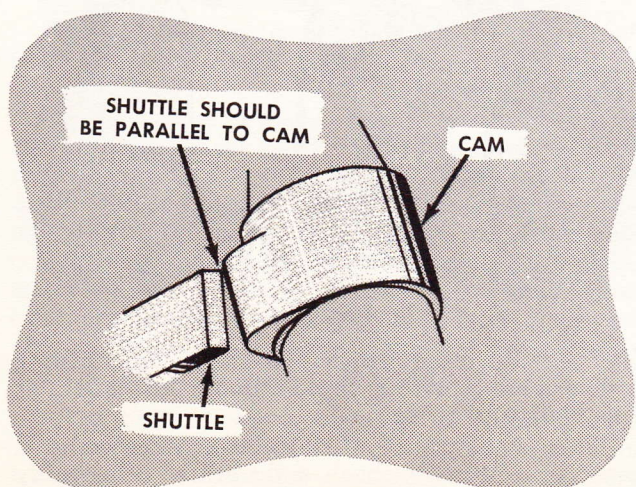

Fig. 13
6. Another possibility of point setting changing would be that as the points were installed, the rocker arm or shuttle arm to cam lobe was not true. In this case the shuttle or rocker arm is contacting the breaker cam on only one corner (Fig. 13) and (as the rocker arm or shuttle arm wear to the curvature of the breaker cam) the clearance is reduced rapidly. Always check the relationship of breaker cam to shuttle or rocker arm when installing points.